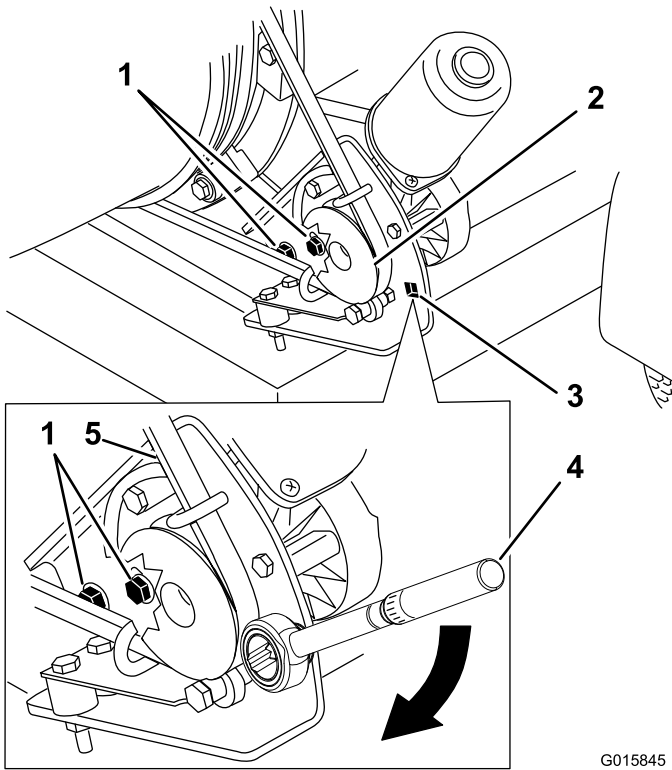

Figure 29
1. Loosen the bolts securing the pulley mounting bracket to the blower frame (Figure 29).
2. Position a torque wrench into the pulley mounting bracket (Figure 29).
3. Pivot the pulley mounting bracket away from the nozzle until the torque wrench reads 22.6 to 26.0 N-m (200 to 230 in-lb) (Figure 29).